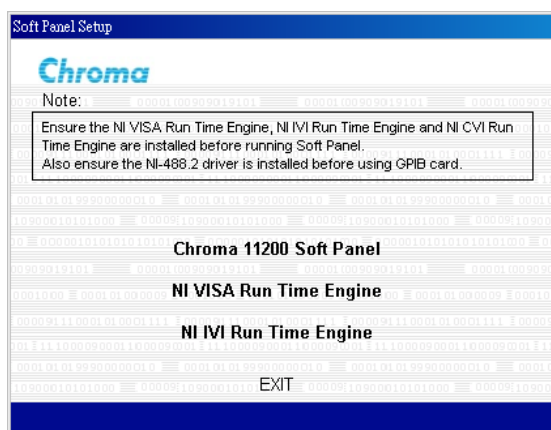

Figure 2-1 Soft Panel Installation Menu
1. Place the CD into the CD drive and the installation begins automatically as Figure 2-1 shows by executing `Setup.exe` program. If it is a download version, please decompress it and click `Setup.exe` to execute manually.
1. Double-click the **NI VISA Run Time Engine** in Figure 2-1 will prompt the following window to install the NI VISA Run Time Engine driver version 4.1 as Figure 2-5 shows.